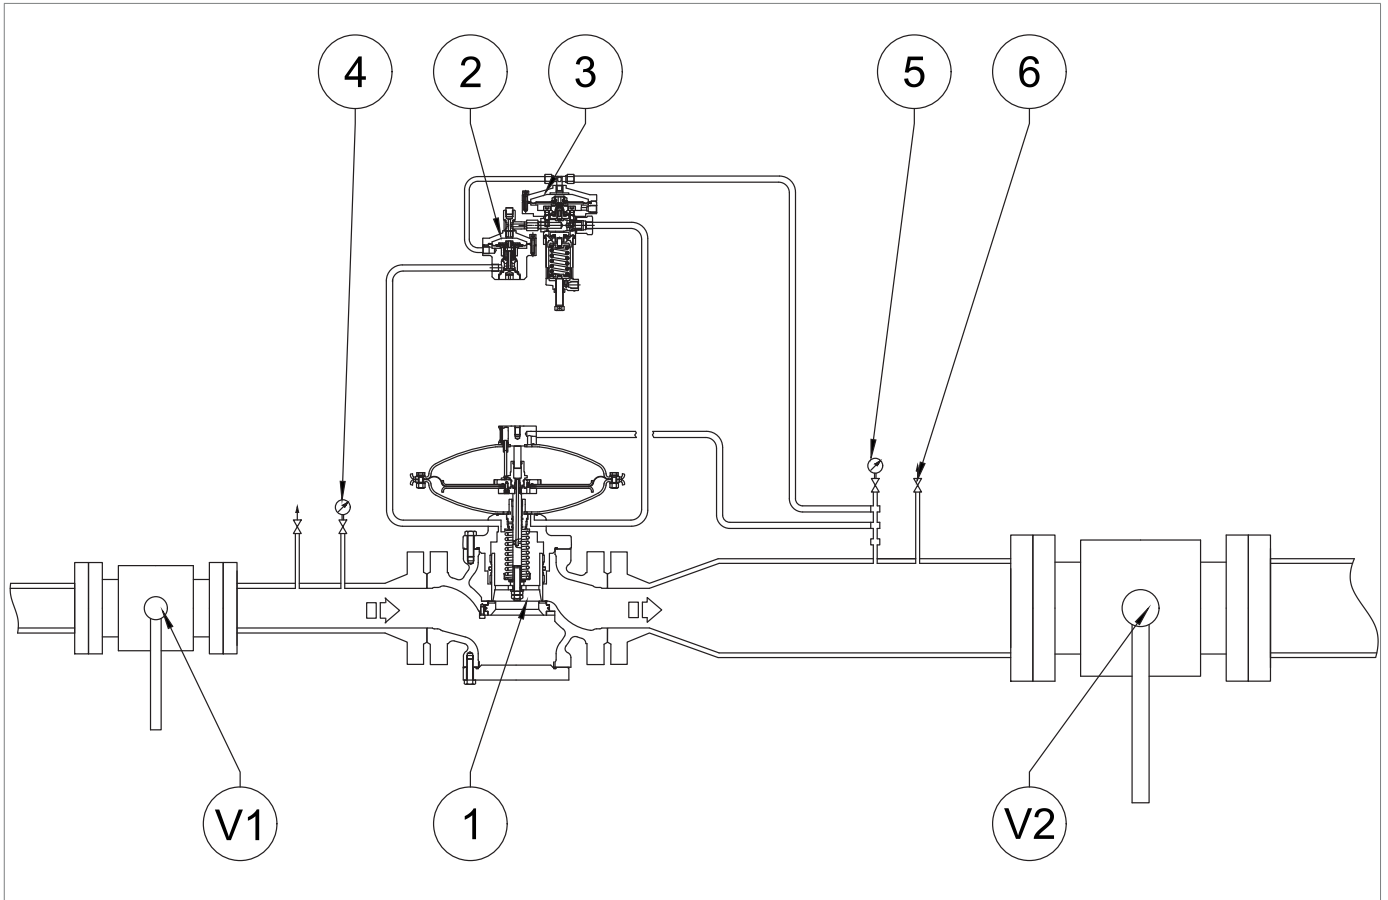

Fig. 8.32. Commissioning the regulator REVAL 182
1	<p>! NOTICE!</p> <p>Check the pressure referring to the pressure gauge (fig. 8.32, ref. 5) downstream of the main regulator.</p> <p>If the slam-shut valve:</p> <ul style="list-style-type: none"> trips before the expected pressure value: screw in (clockwise) the adjustment ring nut (13) so as to further compress the spring (11); does not trip at the expected pressure value: unscrew (anti-clockwise) the adjustment ring nut (13) so as to relieve the spring (11).
2	By opening the drain cock (fig.8.32, ref. 6), decrease the pressure in the downstream section to the calibration value of the main regulator.
3	Close the drain cock (fig. 8.32, ref. 6).